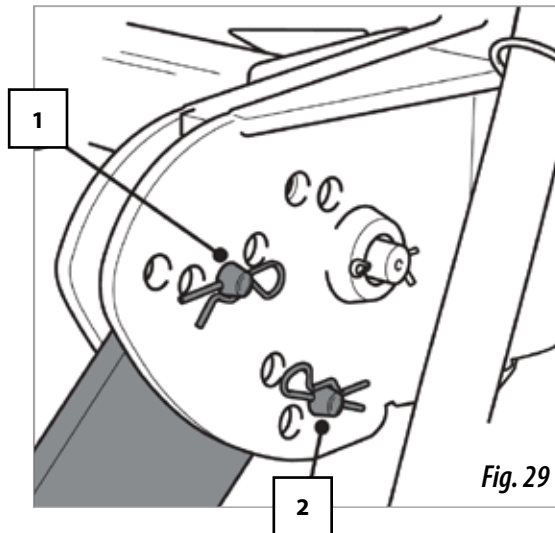

Fig. 29
- a. By using the upper bolt (n°1, fig. 29), the depth of the tine coulters equipment can be adjusted and therefore the pressure on the ground can be controlled.
- b. By using the lower bolt (n°2, fig 29), the roller's penetration into the ground can be controlled and the roller can also be secured ready for transit..
VERY IMPORTANT: NOT TO FIX THE ROLLER, THIS ONE MUST WORK WIDELY BETWEEN THE SCREWS (1 Y 2, FIG. 29)..